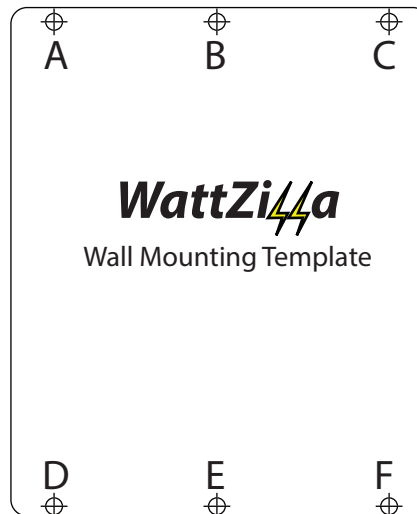

Figure 4. WattZilla Wall Mounting Template
3. Tape the wall mounting template (Figure 4) against the mounting surface location (either the plywood or a wall stud) at a height that complies with local requirements. Each hole for a screw is marked with a crosshair. Mark the center of each crosshair as directed in the following instructions.
4. In each location where there is a crosshair, mark the hole onto the wall mounting surface (Figure 4). When mounting to the plywood, ensure that mark holes A, B and C are level. For single stud wall mounting, only mark the crosshairs for holes B and E and ensure that those holes are level.
8. (Note: Two people are necessary to perform this step.) For single stud wall mounting, lift and align holes B and E of the enclosure over the crosshair marks (Figure 4). While one person holds the enclosure, the other person should use a wrench to install a screw into holes B and E. Hand tighten each screw until the enclosure installation is securely attached. Proceed to the wiring instructions, “WattZilla Electrical Wiring Instructions” (page 12).